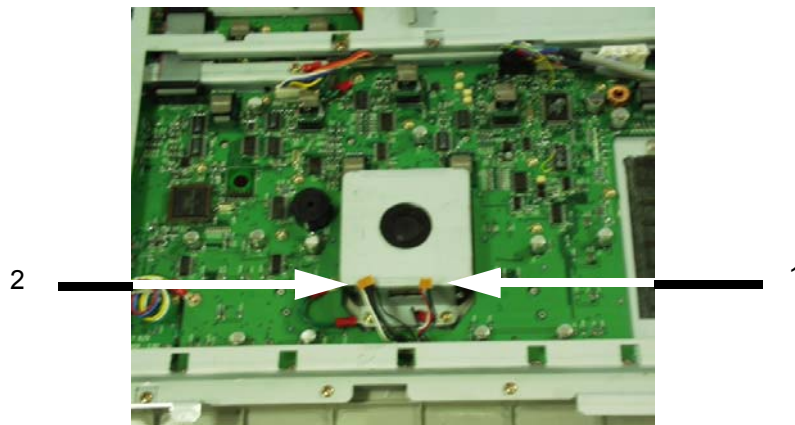

Figure 8-65 Disconnect two connectors
- 1.) Disconnect two connectors (1-2) from the Trackball Assy. Refer to section Figure 8-65 on page 24.